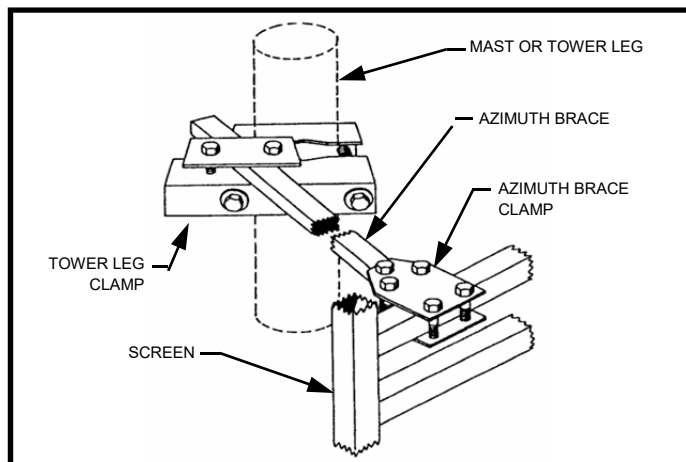
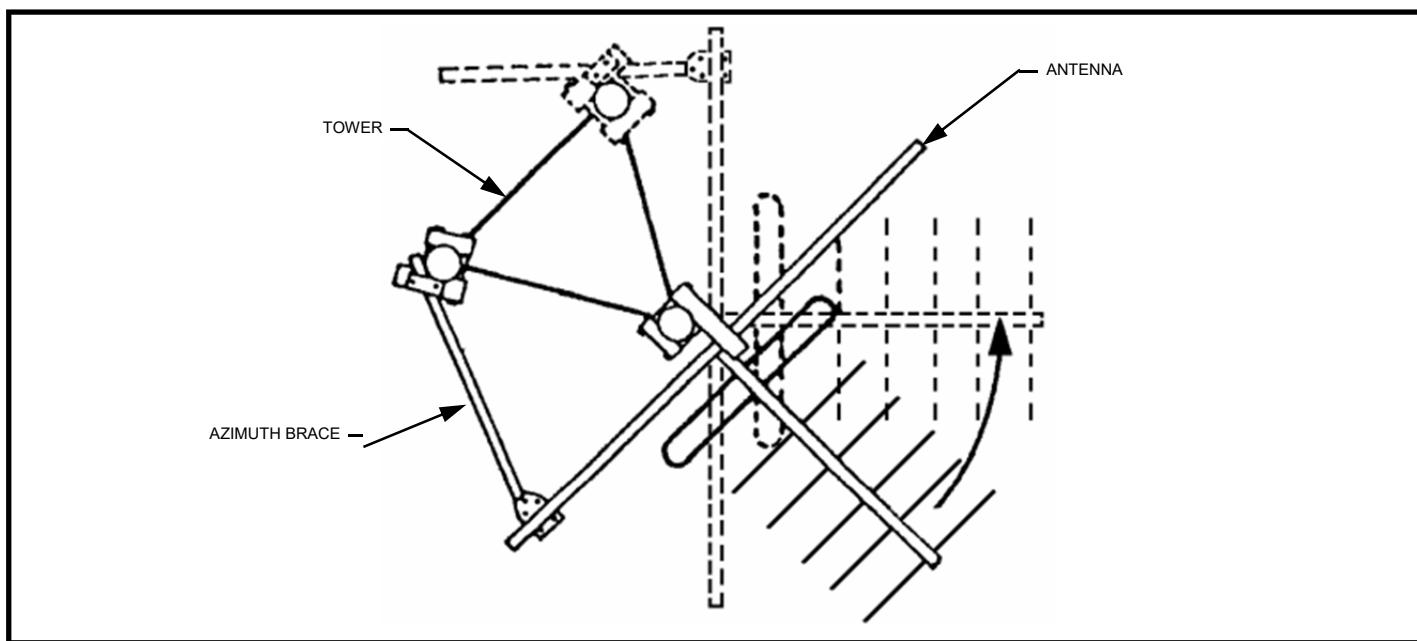

FIGURE 9 AZIMUTH BRACE ASSEMBLY DETAIL
FIGURE 10 TOP VIEW OF ANTENNA AND AZIMUTH BRACE ASSEMBLY
9. Assemble the tower-leg clamp as shown in Figure 9, locate the clamp vertically so that it is aligned with one of the center frame members of the screen, then tighten the clamp sufficiently to hold it in place.
10. Loosely assemble the azimuth-brace clamp-plates onto a center frame member of the screen so that the azimuth brace bolt hole is roughly in line with the tower leg clamp. (See Figure 9 and Figure 10)
11. Insert the azimuth brace through the tower leg clamp as shown in Figure 9 and Figure 10 so that the single hole is vertical and towards the screen, then align the hole with that of the azimuth clamp plates; insert the securing hex-bolt and nut.
14. Align the antenna in the desired direction, sliding the azimuth brace in the tower leg clamp and rotating the tower leg clamp as required. (See Figure 10)